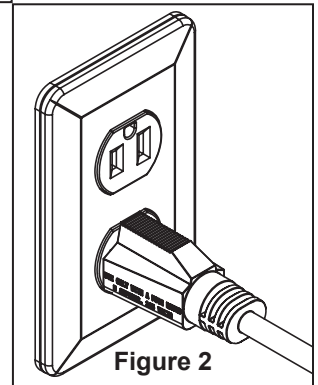

Figure 2
2. Plug cord directly into the socket. (Figure 2)